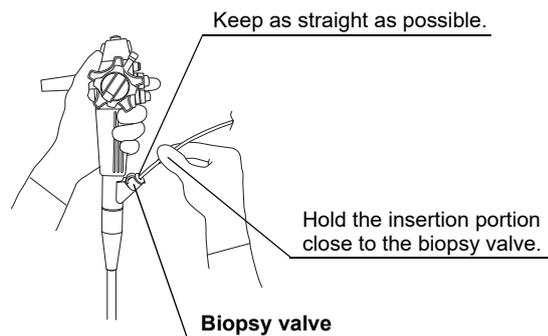

Figure 3
2. With the cups closed, carefully insert the instrument into the biopsy valve (see Figure 3).